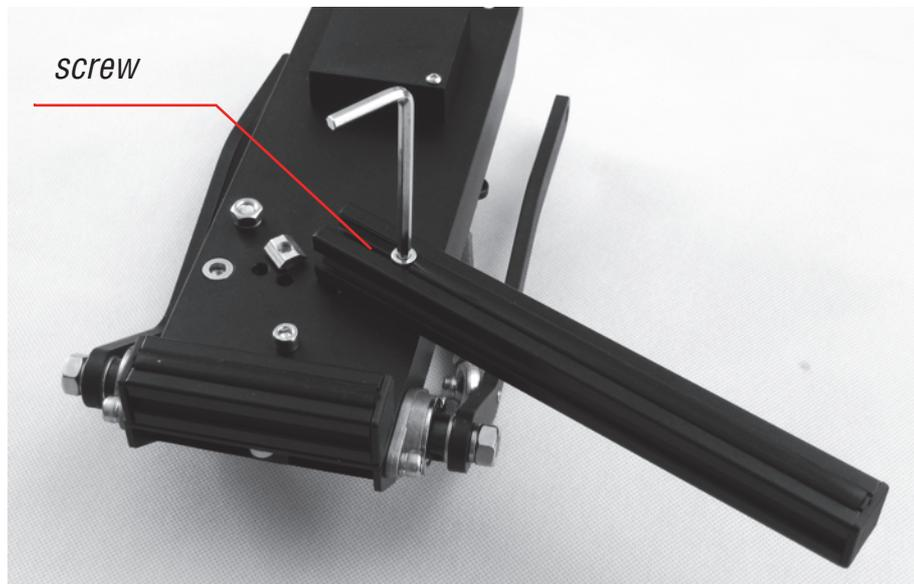

Fig. 2.9.
- 4.5. Screw the back legs to a case using M5x25 screw with spring washer. Drive the screws into threaded rivet nuts of the axis holes from the external side of the case (fig. 2.9).